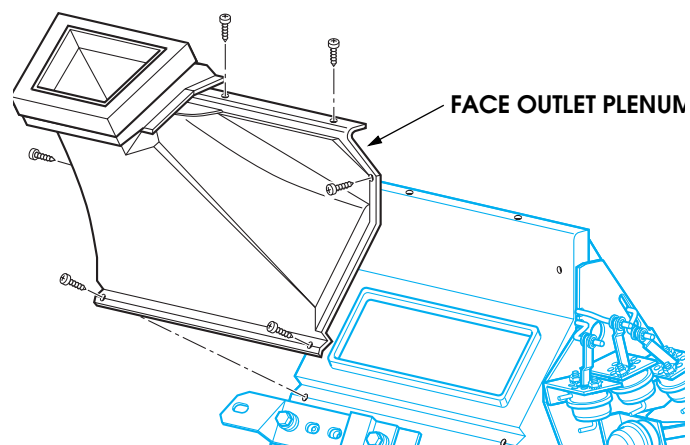

Figure 11-99: Face Duct Outlet Plenum
- Remove face duct outlet plenum (Figure 11-99).